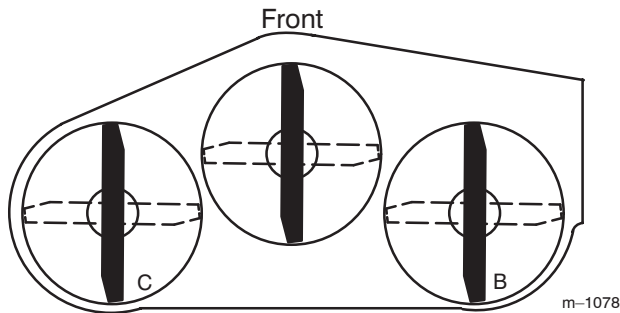
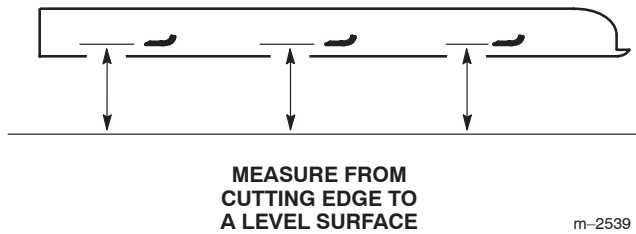

Figure 51
Figure 52
1. Position the **right** blade front to rear (Fig. 51).
2. Measure the right blade at the **B** location (Fig. 51), from a level surface to the cutting edge of the blade tip (Fig. 52).
4. Position the **left** blade front to rear (Fig. 51).
5. Measure the left blade at the **C** location (Fig. 51), from a level surface to the cutting edge of the blade tip (Fig. 52).